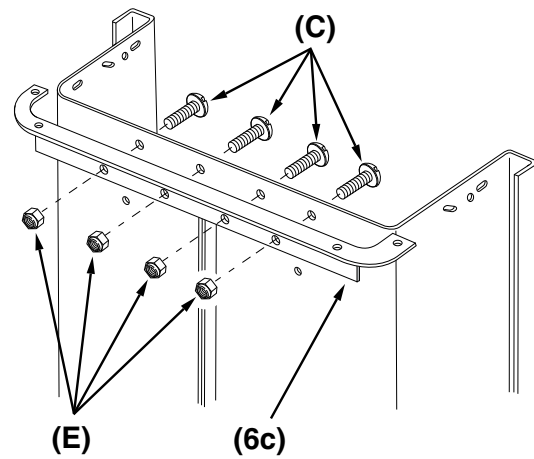

Figure 2
STEP 2 (SEE FIGURE 2): Attach the Lower Rear Angle Bracket (6c) to the assembled cart body using four 5/16" x 3/4" truss head bolts (C) and 5/16" nylock nuts (E).